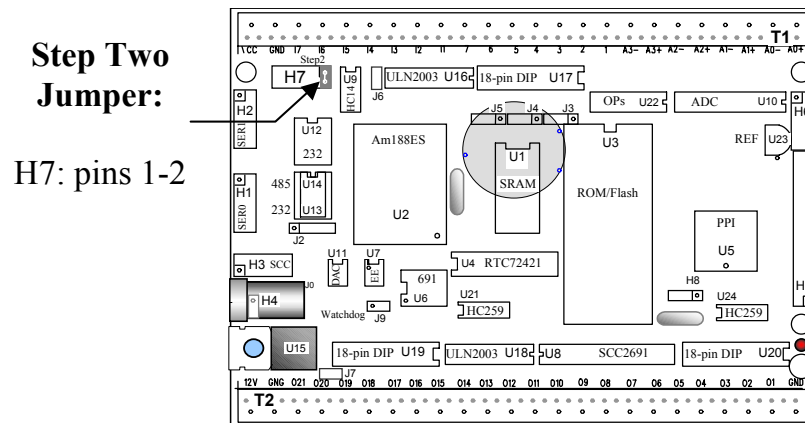

Figure 1.4 Location of Step 2 jumper on the TD40
- Set the jumper on H7 pins 1-2 on the TD40 (Figure 1.4).